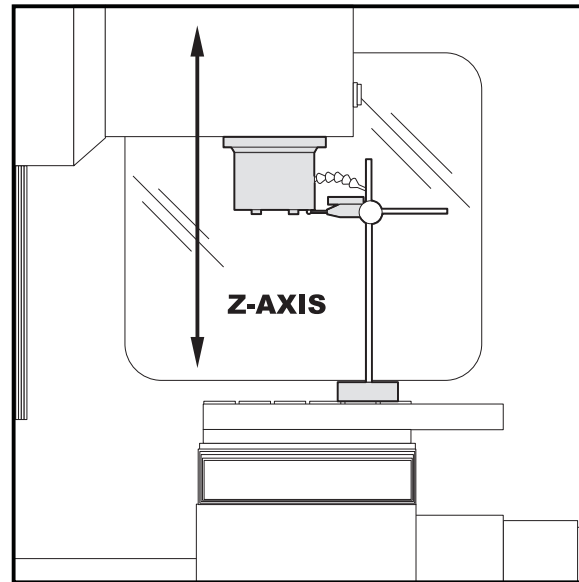

Figure 1-3. Dial indicator in position to check Z-axis.
1. Set up a dial indicator and base on the mill table as shown in Fig. 1-3.